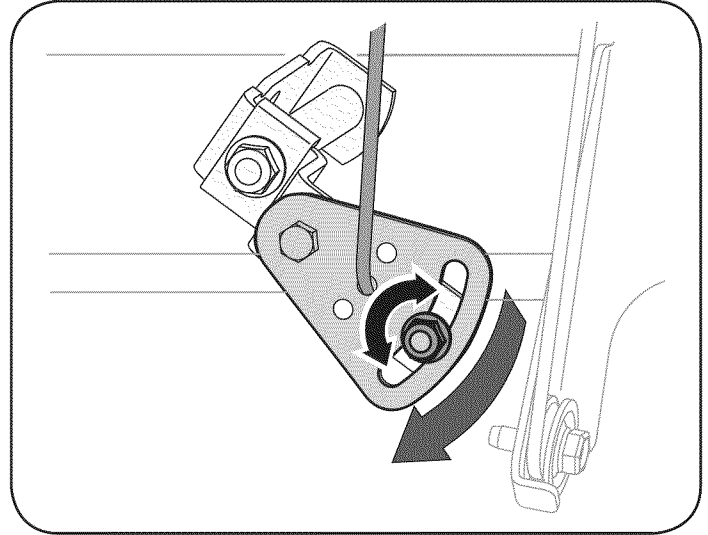

Figure 27
If the full range of speeds (forward and reverse) cannot be achieved, refer to Figure 27 and adjust the shift cable as follows:
2. Loosen the hex nut on the shift cable index bracket. See Figure 27.